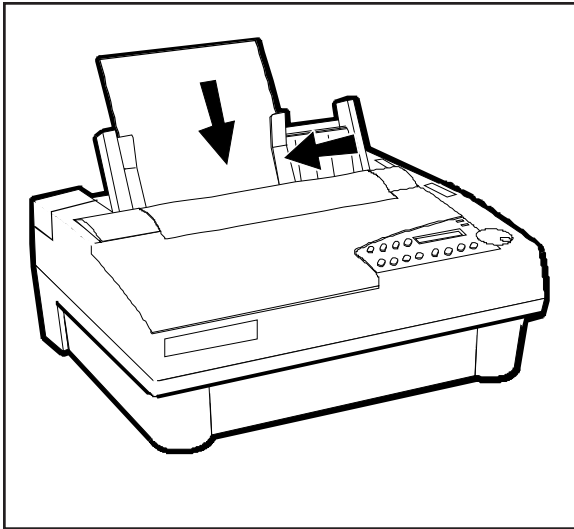

Figure 2-11. Loading a Cut Sheet
1. With the paper support raised, squeeze the rear clip on the left paper edge guide and position the guide so that it aligns with the "0" mark (0) on the ruler.
2. Set a sheet of paper between the paper edge guides, as shown in figure 2-11. Squeeze the rear clip of the right paper edge guide and position it against the right side of the paper.